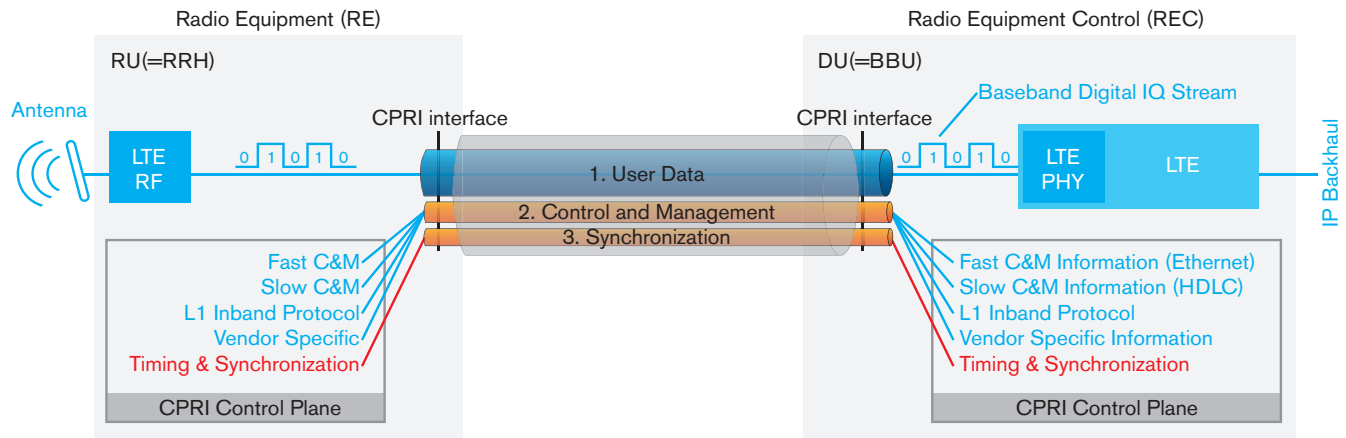

Figure 3. CPRI transport concept
The communication protocol running over the fiber between the baseband unit and the remote radio head is the Common Public Radio Interface (CPRI). CPRI was established in 2003 by base station vendors, such as Ericsson, Nokia Siemens Networks, Alcatel Lucent, NEC, and Huawei Technologies, to define a publicly available specification that standardizes the protocol interface between base station devices (baseband unit and remote radio head). Figure 3 demonstrates how the CPRI protocol works from getting the RF signal transmitted over fiber towards the IP Backhaul—and vice versa.
Furthermore, Figure 3 illustrates that the incoming RF data is digitized via the remote radio head (RRH), commonly referred to as Digital Radio over Fiber (D-RoF). The digitized data is then wrapped up into the CPRI protocol's "User Data" signal flow, known as IQ Data; "I" refers to In-Phase and "Q" refers to Quadrature. The same process takes place as traffic is entered via the IP Backhaul; the traffic enters the Digital Unit (DU) and is wrapped again within the user data signal flow of the CPRI protocol. Once the RRH receives this data, it then converts it back to analog, amplifying and radiating it over the air, and eventually making it to the User Equipment (UE).